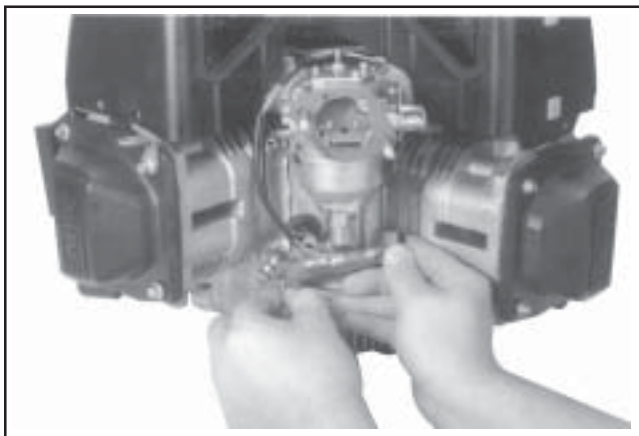

Figure 11-70. Install Governor Lever to Shaft.
1. Install the governor lever onto the governor cross shaft. See Figure 11-70.